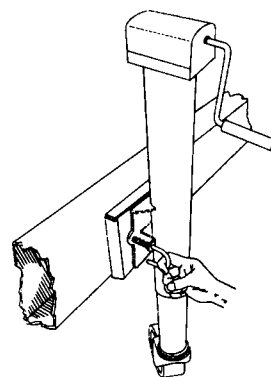

Figure S3: Swivel Jack
1. Pull on the lock pin. See Figure S3.